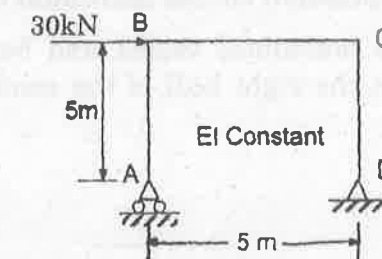

Fig.Q.15(a)
15. (a) Analyse the portal frame shown in Fig.Q.15(a) using moment Distribution Method.